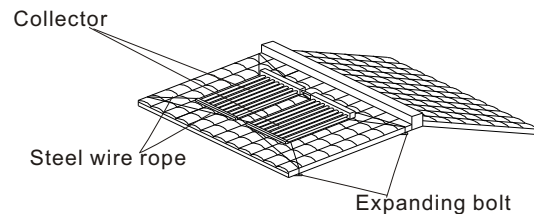

Fig.3 Installment sketch map of BRF1-120/150W
- Collector equipment of solar water heater is installed with the method of oblique top. collector equipment is placed on the southern rooftop of the house so as to ensure that the equipment faces south and there is no shelter ahead. All the four corners of each collector equipment are linked perfectly with steel wire rope. the other end of the steel wire rope is fixed under eaves or on the wall with an expanding bolt. Pay attention that the steel wire rope is strained and the expanding bolt is beaten firmly. Take the installment of solar water heater of BRF1-120/150W as an example. For the sketch map of installment, please see Fig.3.